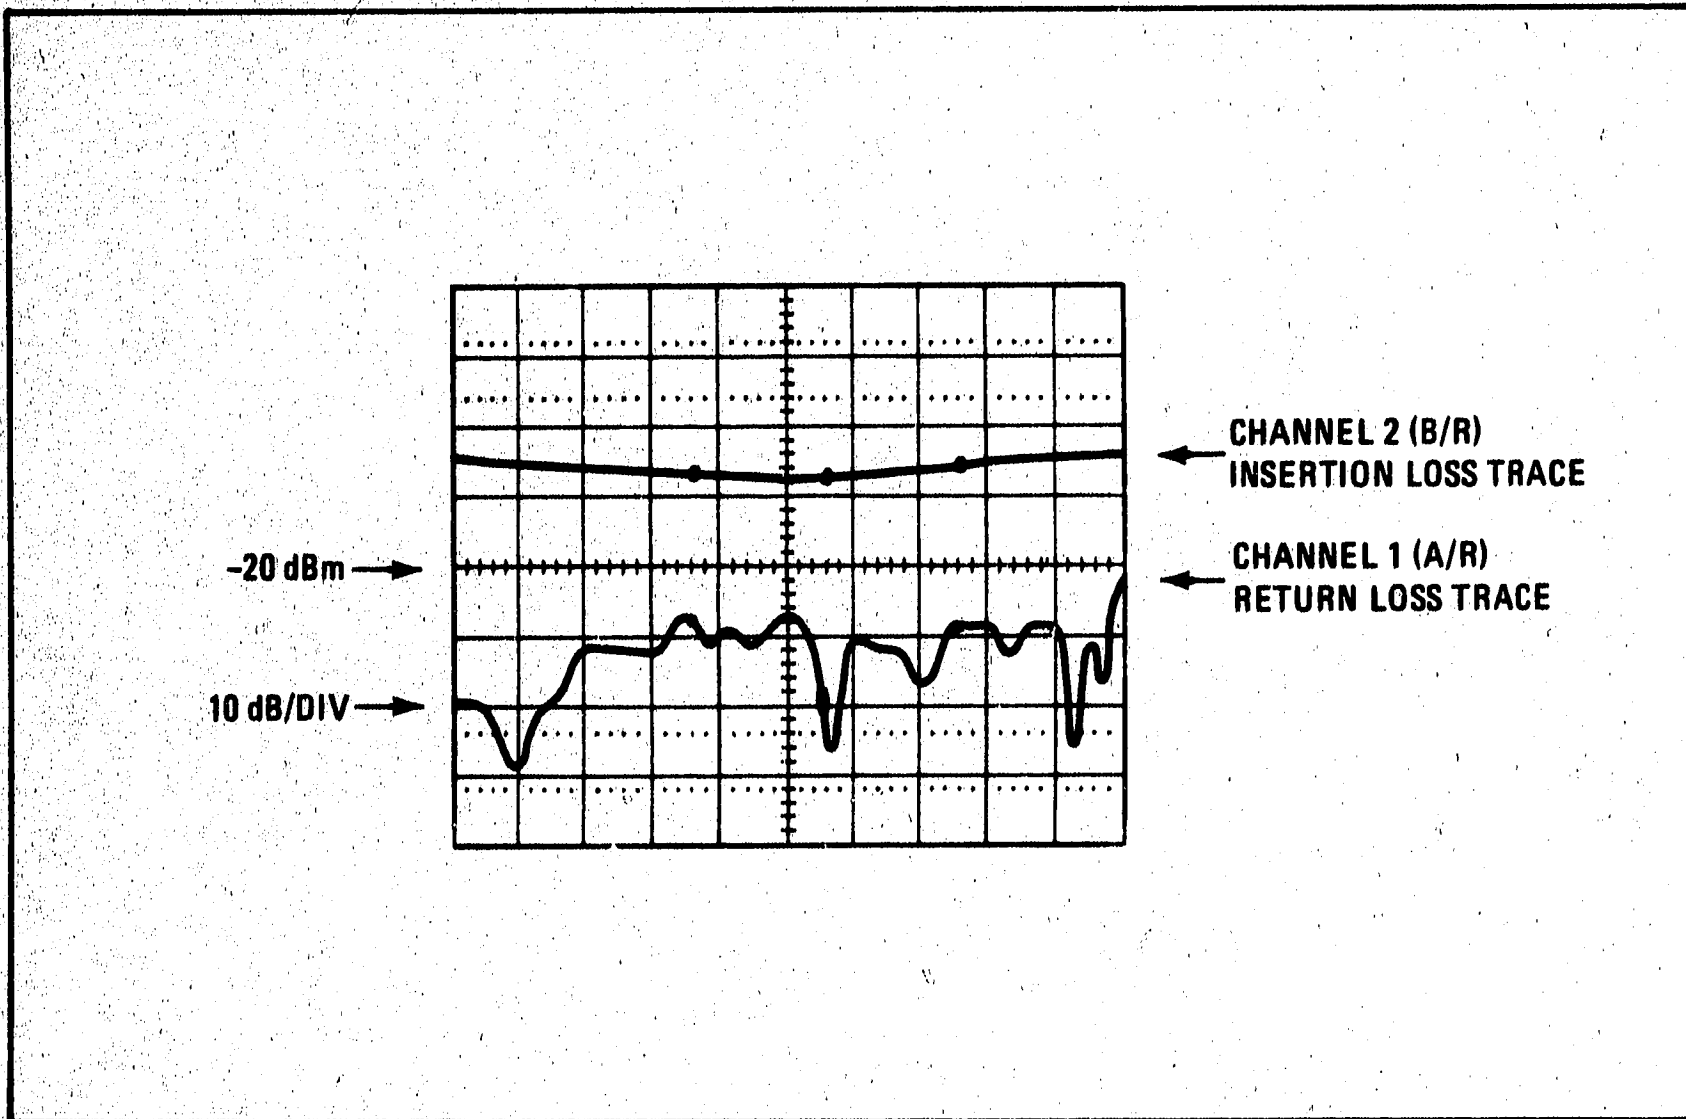
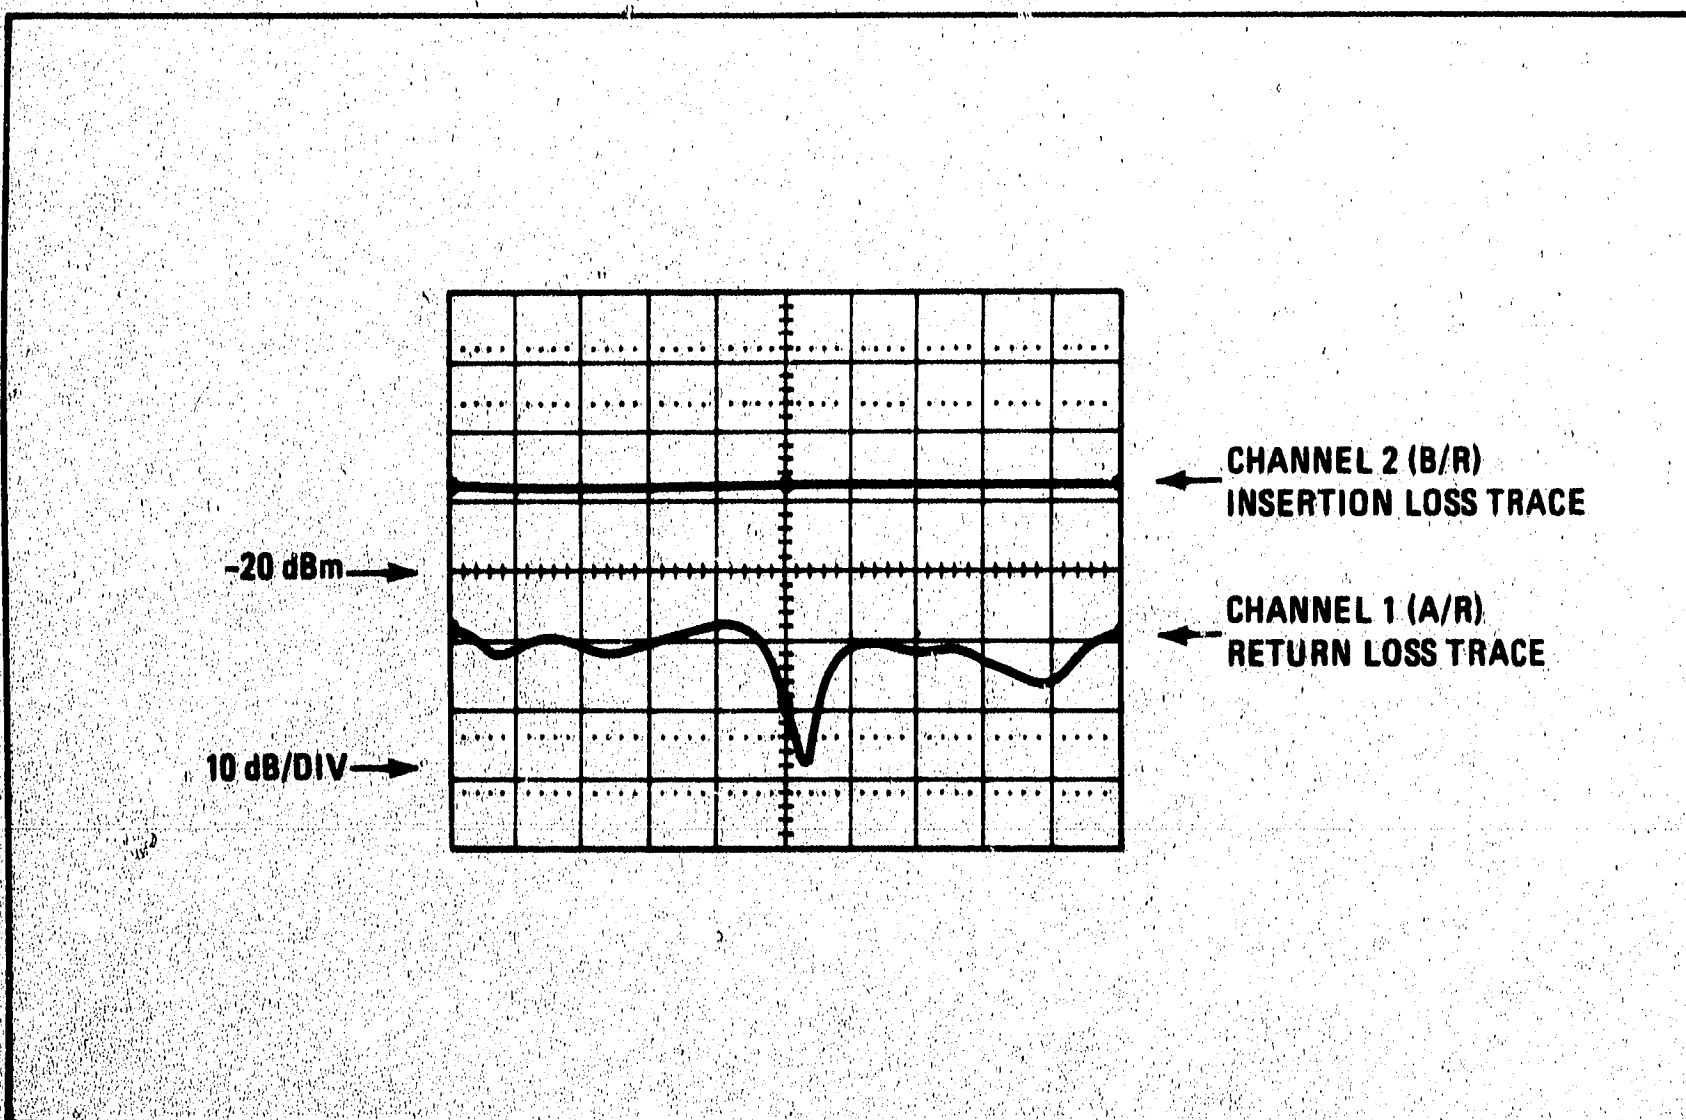

Figure 4-2. Full Band Display of 3 dB Attenuator Measurement
Figure 4-3. MKR SWEEP Display of 3 dB Attenuator Measurement
17. On the 8350A, press M1 followed by   then M2 followed by   and finally M3. The display should look like that in Figure 4-2 with two traces having three intensity markers displayed on each trace. The Channel 1 display shows the return loss characteristics (uncalibrated) of the 3 dB attenuator followed by the detector. The Channel 2 display shows the transmission characteristics (uncalibrated) of the same signal path.
19. On the 8350A, press MKR SWEEP. The display should look like Figure 4-3 with the trace expanded to a new START and STOP frequency as set by the markers in the previous step. This step indicates that the 8350A and the RF plug-in are properly changing the frequency range being swept.
22. Press RECALLn 1 ALTn 2. The ALTn LED should light. The display should now show one full band sweep of Figure 4-2 and one marker sweep of Figure 4-3. The 8350A FREQUENCY display will NOT change during the Alternate Sweep function but will display only the first, or reference, register frequency data.
23. Press ALTn. The ALTn LED should go out and the display should look like Figure 4-2 once again.
24. On the 8350A, set a 2 second sweep time by pressing SWEEP TIME 2 s. The display should still look like Figure 4-2 except that the sweep time has slowed to 2 seconds.
30. On the 8750A, press CH 1 and RECALL followed by CH 2 and RECALL. Their respective LEDs should be lit when each button is pressed. The original traces of Figure 4-2 should now be displayed. Press HOLD, then vary the RF plug-in power level. The display should not change.
31. On the 8750A, press BYPASS and verify that the BYPASS LED lights. The display should now show the original traces of Figure 4-2 being swept at a 2 second sweep speed.